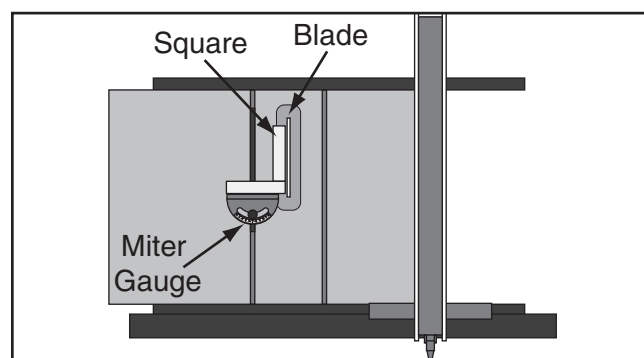

Figure 125. Example of checking 90° stop on miter gauge.
4. Place the 90° square evenly against the face of the miter gauge and the blade, as shown in **Figure 125**.